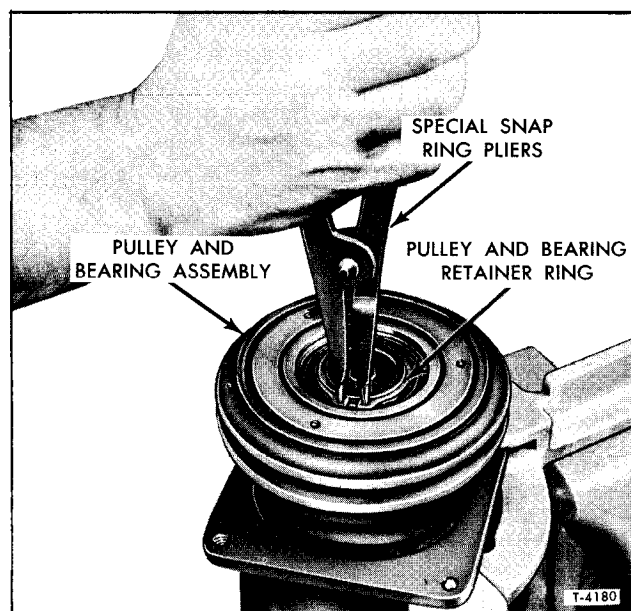

Figure 39-Removing Pulley and Bearing Assembly Retaining Ring
2. Using snap ring pliers (J-6435), remove the pulley and bearing retainer ring (figure 39).